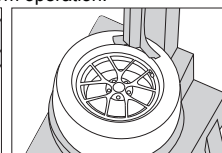

Fig 2
- (Fig 2) Remove the tire. The valve faces the mounting arm in the one o'clock direction, remove the tire.